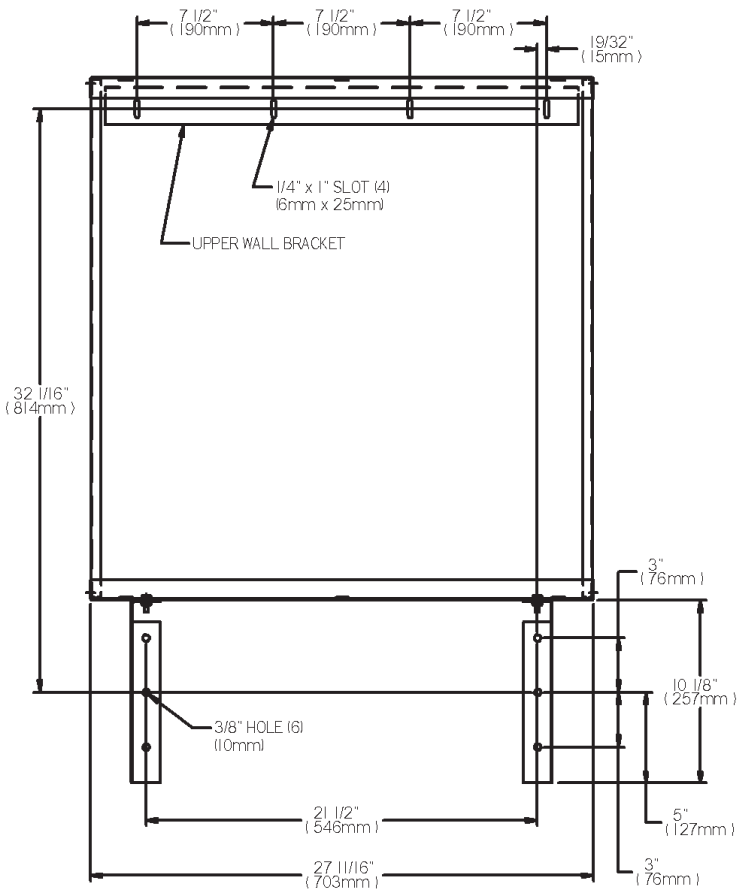

FIG. 1
- 1) LAYOUT MOUNTING LOCATION AS SHOWN IN FIG. 1
SCREW ANGLE BRACKETS TO WALL (SEE FIG 1 FOR HOLE LOCATION) WITH SCREWS (PROVIDED BY INSTALLER).